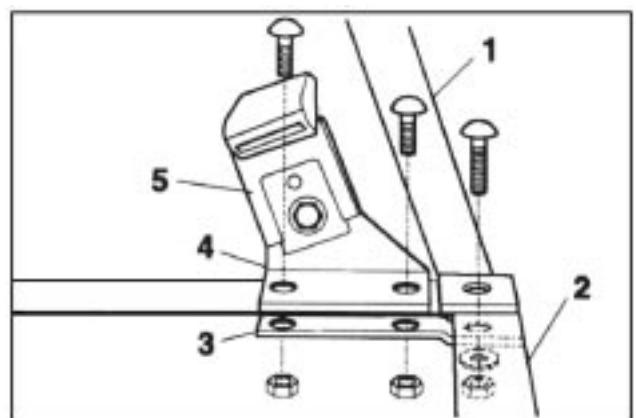

FIG. 8
1. Remove rear carriage bolt and nut securing R.H. Hip restraint to rear of Seat Box Panel; DISCARD BOLT and SAVE NUT and WASHER for future use. Install Seat Belt Support Strap under Seat Box Panel and R.H. Outside Seat Belt Support on top of Panel. Secure with (2) 5/16" x 3/4" carriage bolts and (2) flange locking nuts. Replace bolt removed earlier with 5/16" x 1 1/4" carriage bolt and use existing nut and washer. Tighten fasteners securely. See FIG. 8. **(Repeat on L.H. Side).**
2. Secure Seat Belt Buckle Ass'y to Outside Belt Support with (1) 7/16" x 1 1/4" capscrew and flange locking nut.